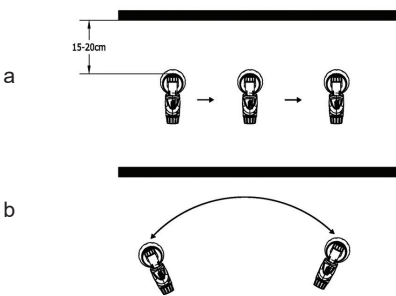

Fig 1
- Correct (Fig. 1 a) Be sure to hold the spray gun at an even distance of approx. 2.5- 30 cm to the target object.
- Incorrect (Fig. 1 b) • Heavy spray fog build-up, uneven surface quality.